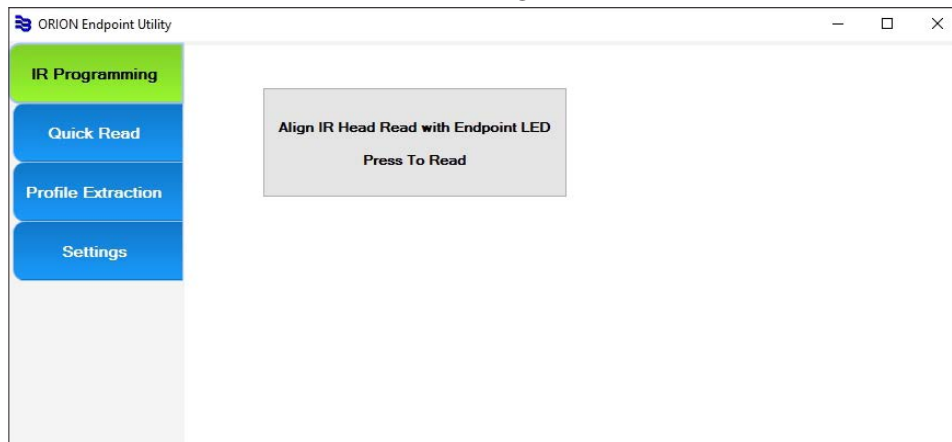
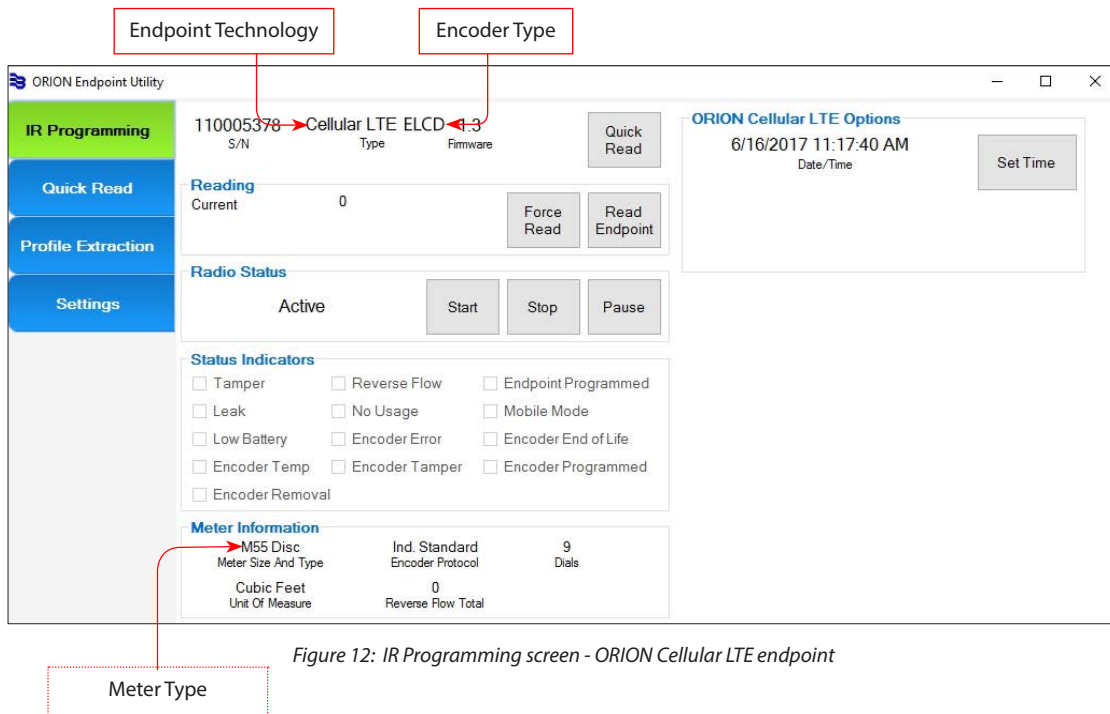

Figure 11: Main screen - IR Programming selected
Figure 12: IR Programming screen - ORION Cellular LTE endpoint
The software application main functions are listed in a menu along the left side of the software screens as shown in Figure 11.
**NOTE:** The screen shown in Figure 11 displays the first time you select the **ORION IR Programming** option on the ORION Endpoint Utility menu. Once you **Read** an endpoint, the IR Programming screen (Figure 12) displays instead. The IR Programming screen refreshes each time you read an endpoint using the **Read Endpoint** button.
IR programming screen varies depending on the technology. An example of an IR Programming screen for an ORION Cellular LTE endpoint with an HR-E® LCD encoder on a water meter is shown in Figure 12. The fields and buttons on the screen vary depending on the following: